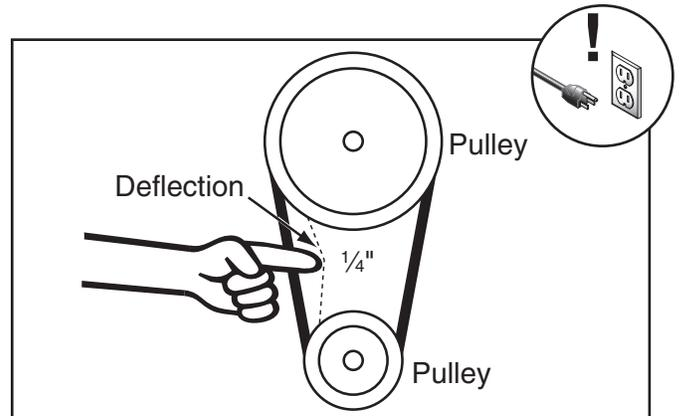

Figure 98. Correct V-belt deflection.
The V-belt is correctly tensioned when there is approximately ¼" deflection when it is pushed with moderate pressure, as shown in **Figure 98**.
2. Lower the motor and re-tighten the mounting hex nuts. The *high range V-belt* is correctly tensioned when there is approximately $\frac{1}{4}$ " deflection when it is pushed with moderate pressure, as shown in **Figure 98** on **Page 63**.